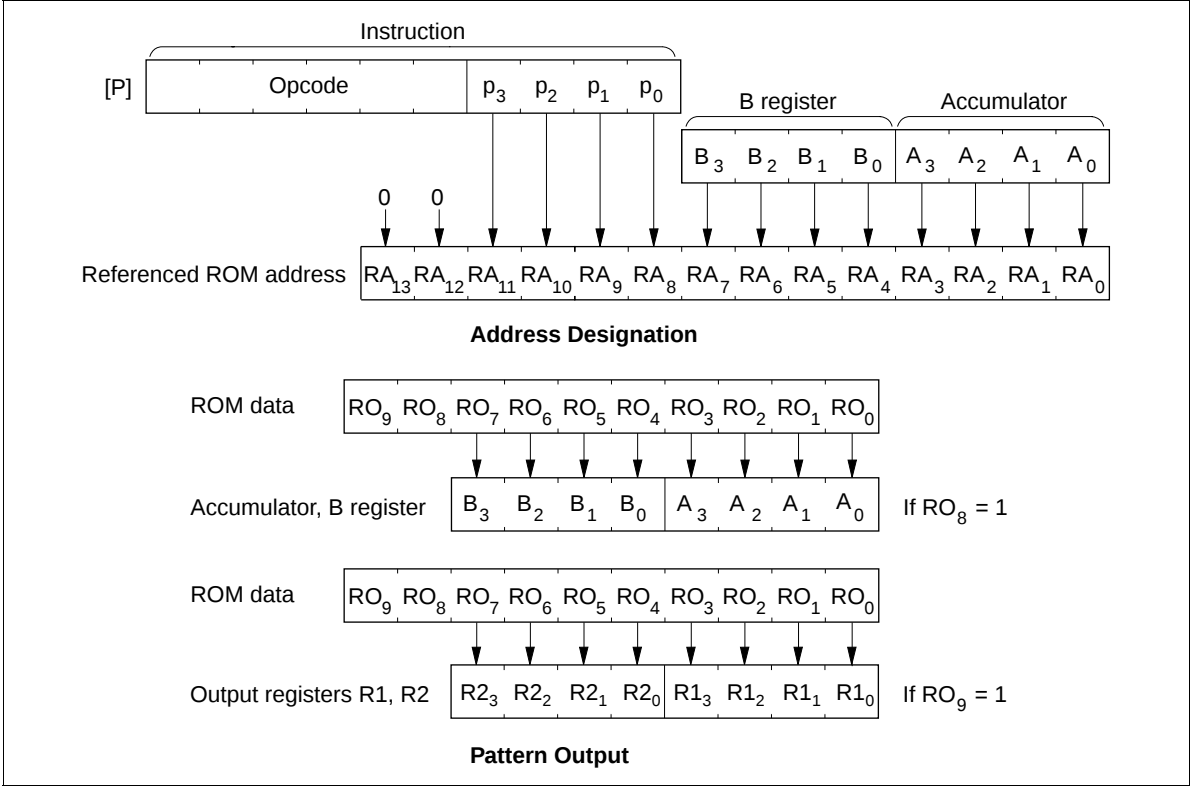

Figure 102 P Instruction
**P Instruction:** ROM data addressed in table data addressing mode can be referenced with the P instruction as shown in figure 102. If bit 8 of the ROM data is 1, eight bits of ROM data are written to the accumulator and the B register. If bit 9 is 1, eight bits of ROM data are written to the R1 and R2 port output registers. If both bits 8 and 9 are 1, ROM data is written to the accumulator and the B register, and also to the R1 and R2 port output registers at the same time.